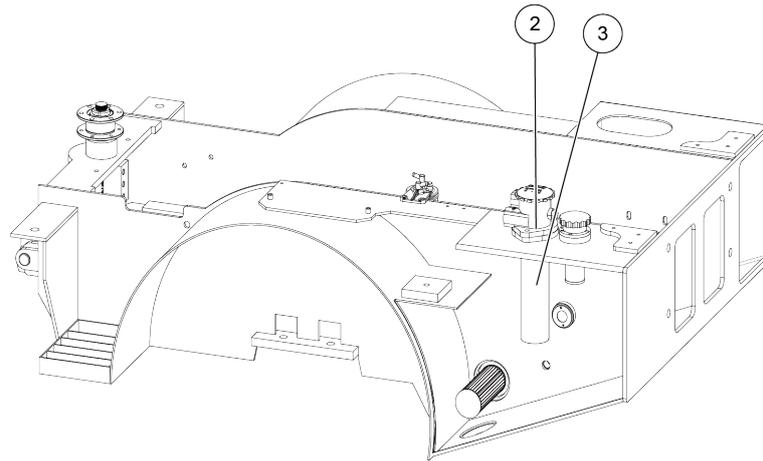

Figure 6-19 Cover Hydraulic oil filter element
(1) Hydraulic oil plug
Step 5: Remove the radiator and other obstructive devices, remove the cover (2), check and clean the oil tank;
Step 6: Unscrew the hydraulic oil filter element (3) in the tank, and install a new one as shown in Figure 6-19;